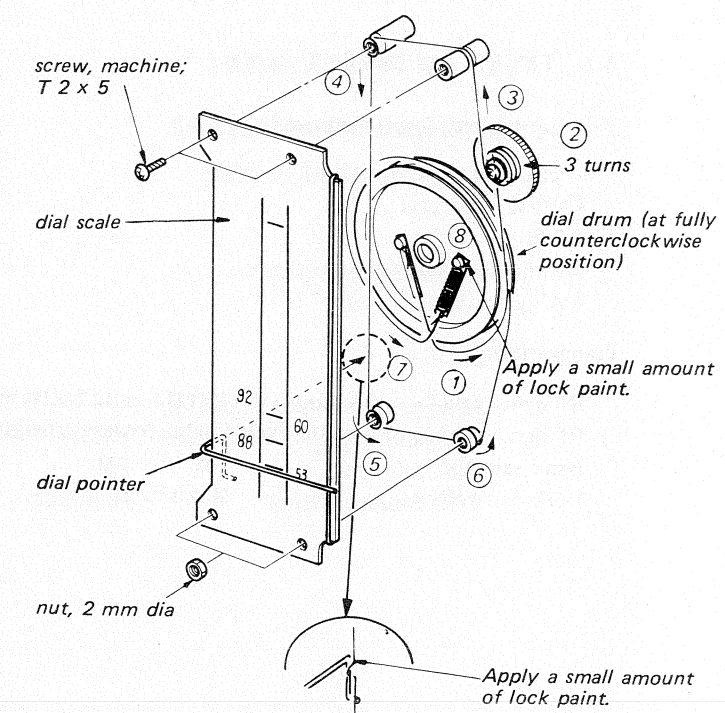

Fig. 2-4.
1. Remove the dial scale and dial pointer by removing two machine screws, T2 x 5, and two nuts, 2 mm dia, as shown in Fig. 2-4 below.
3. String the dial cord numerically as shown in Fig. 2-4 below.